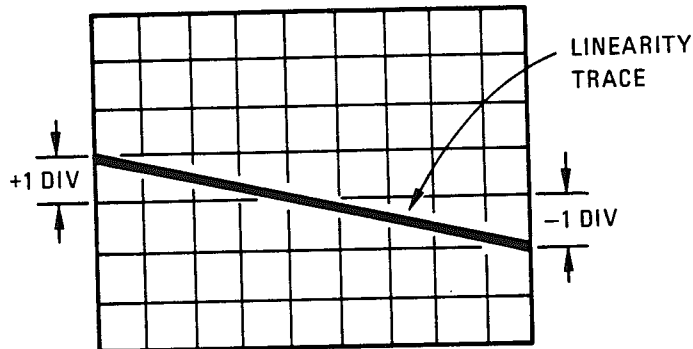

Figure 5-8. FM Linearity Display
4. Set variable-phase generator's reference phase output for a 1 kHz signal at an amplitude that gives a 2.56 MHz peak deviation indication on the Signal Generator's panel meter. Set linearity circuit's voltage divider switch to 100. Adjust generator's variable phase output's phase for a straight line on the display as shown in Figure 5-8. Adjust oscilloscope's vertical gain for  $\pm 1$  division at edge of display.